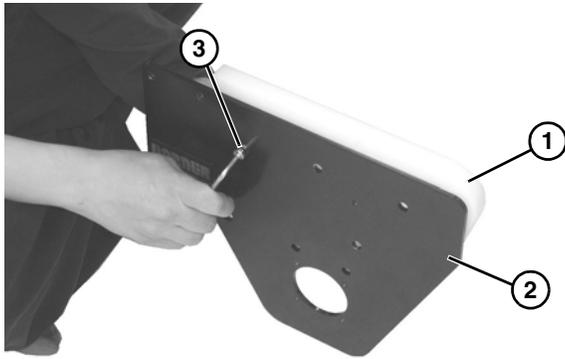

Figure 41
15. Check drive terminal assembly (**Figure 41, item 1**) for wear. If worn, remove two low head cap screws (**Figure 41, item 2**) and low head cap screw (**Figure 41, item 3**) and replace.